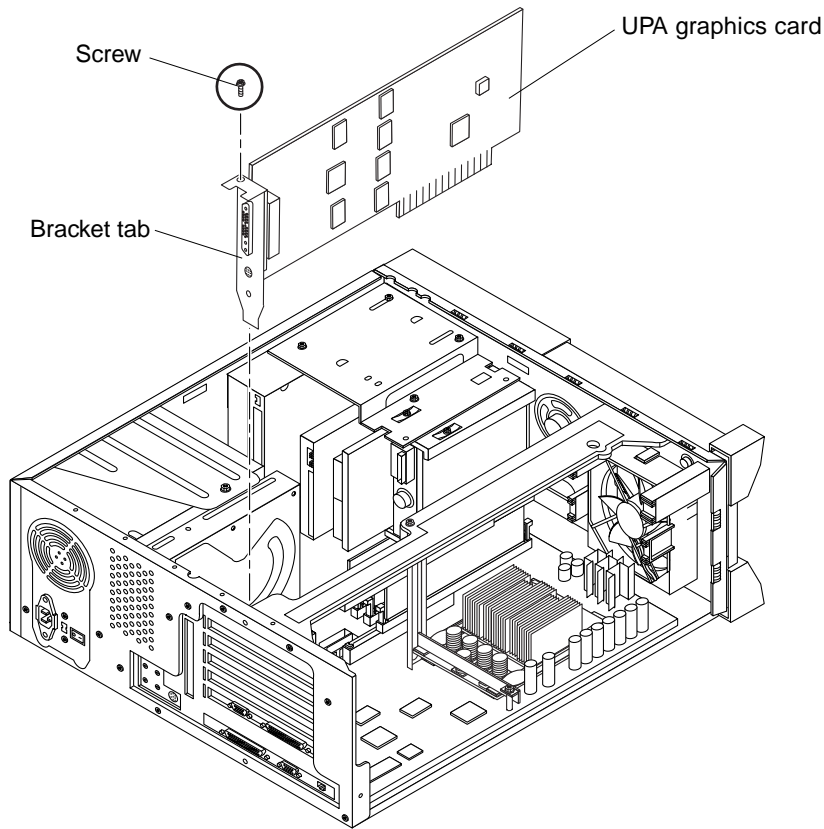

FIGURE 8-4 Removing and Replacing the Graphics Card
2. **Remove a graphics card as follows (FIGURE 8-4):**
1. **Replace the graphics card as follows (FIGURE 8-4):**